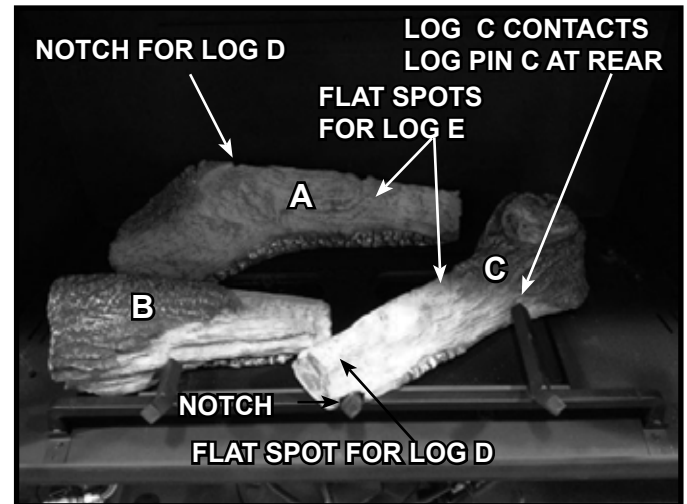
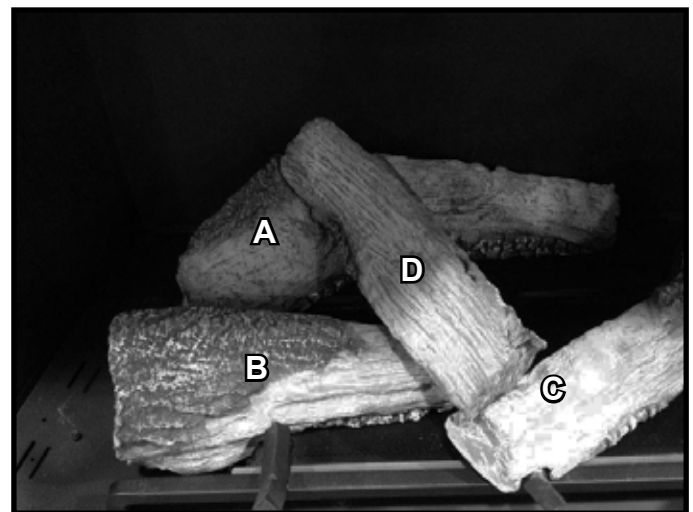
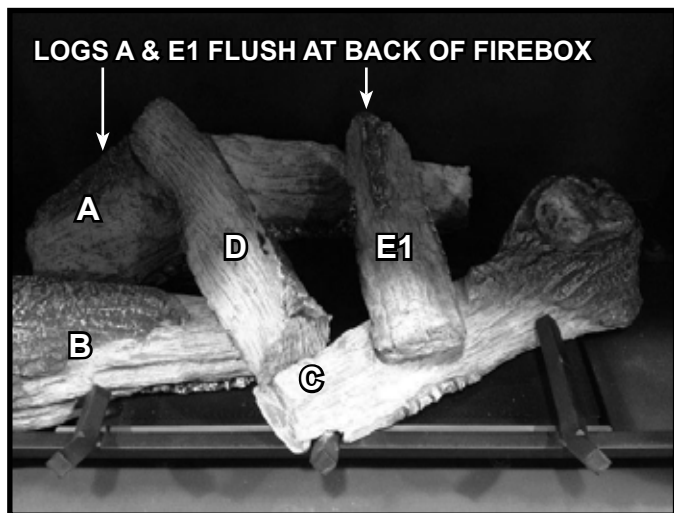

Figure 7. Log C Installed
Figure 8. Log D Installed
Figure 9. Log E Installed
3. **(LOG C):** Locate the notch on Log C. Place the notch over the center grate tine, and rear of log between the right grate tine and Log Pin C as shown in Figure 7. Move notched end of log forward until it stops, then rotate rear of log to rear until it contacts Log Pin C.
4. **(LOG D):** Log D will utilize two flat spots for its placement as shown in Figure 7. The flat spots are located on Log A and on Log C. Locate the end of Log D that does not have bark and place it into the notch on Log A. Place the other end of Log D on the flat spot on Log C. See Figure 8. The front edge of Log A may lift off the burner/hearth pan slightly when Log D is placed properly.
5. **(LOG E1):** Log E will utilize two flat spots for its placement as shown in Figure 7. The flat spots are located on Log A and on Log C. Place the “bark” end of Log E1 on the flat spot on Log A. Rest the other end of Log E1 on the flat spot of Log C. The back of Log E1 should be flush with the back of Log A. See Figure 9.